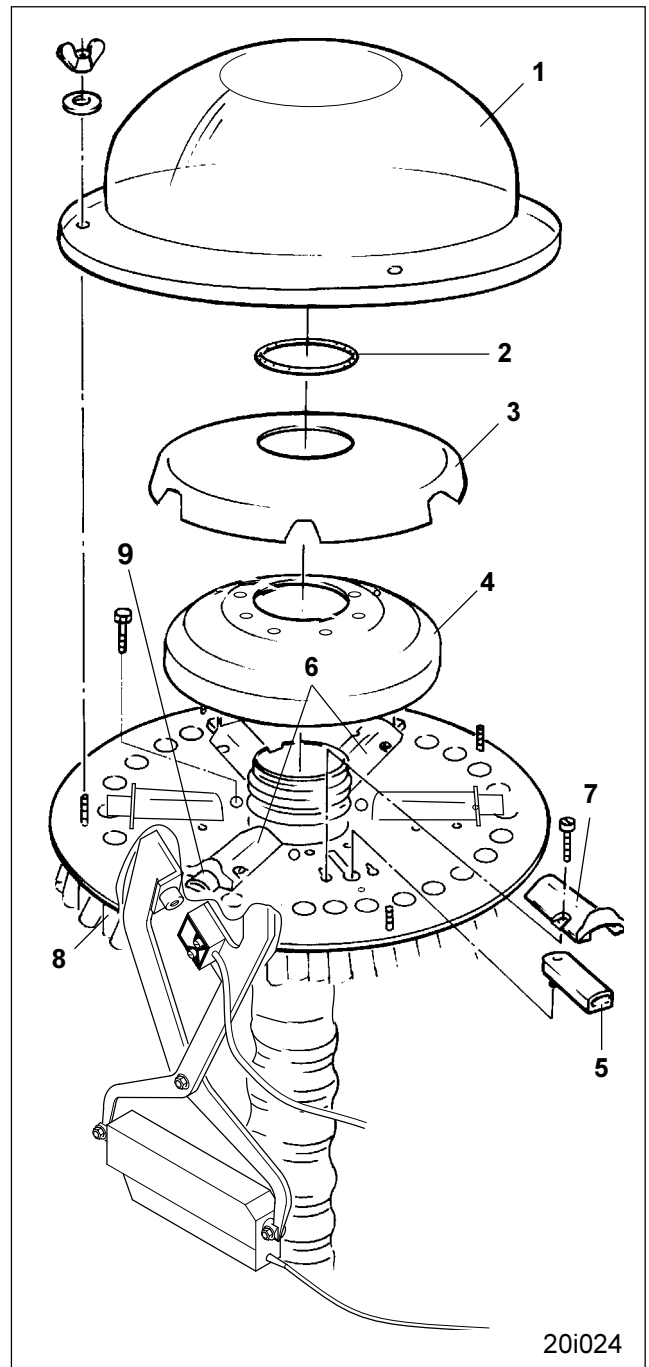

Fig. 26.13
On supply of the seed drill the tramline kit has been set to the wheel marks of your husbandry tractor. However, should it be necessary, e.g. when purchasing a new husbandry tractor, to set your tramline system onto the wheel marks of the new tractor, the seed tubes (Fig. 26.13/8) have to be interchanged for one another on the distributor head. Thereby it should be noted that the tramlining coulter is fixed to such outlets which can be shut by the shutter slides (Fig. 26.13/9).
- Outer distributor hood (Fig. 26.13/1)
- O-Ring (Fig. 26.13/2)
- Inner distributor hood (Fig. 26.13/3) and
- Foam material insert (Fig. 26.13/4).
It is possible to fit up to 6 shutter slides. Always two shutter slides (Fig. 26.13/6) should be fitted on the base plate opposing each other. For mounting or dismounting the shutter slide (Fig. 26.13/5) the shutter slide funnel (Fig. 26.13/7) must be removed.